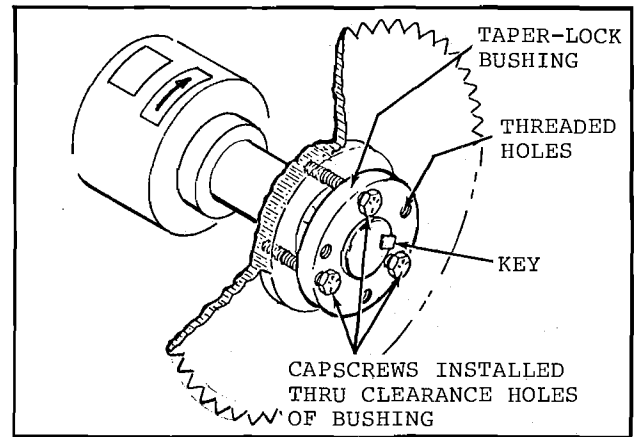

FIG. 26 - CAPSCREW ARRANGEMENT FOR REASSEMBLY OF BUSHING
2. To install pulley, or sprocket onto its respective shaft (Fig. 26) -